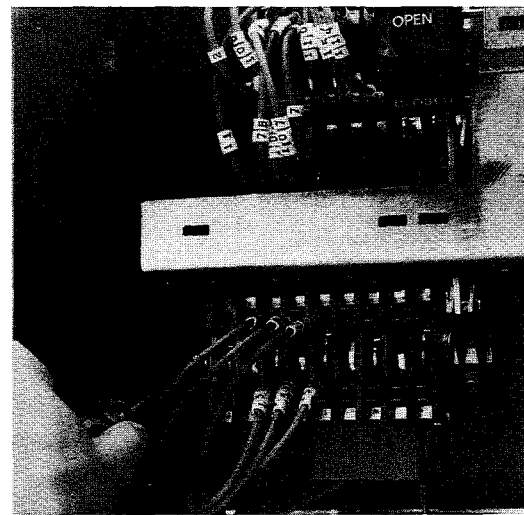

Figure 19: Reassembling auxiliary switch block
8. Reclose the gap between the metal cam and the notched ring by inserting the screwdriver between the nut and washer at the end of the block (figure 19). If necessary, move the cam slightly to align the indentation and the notch.